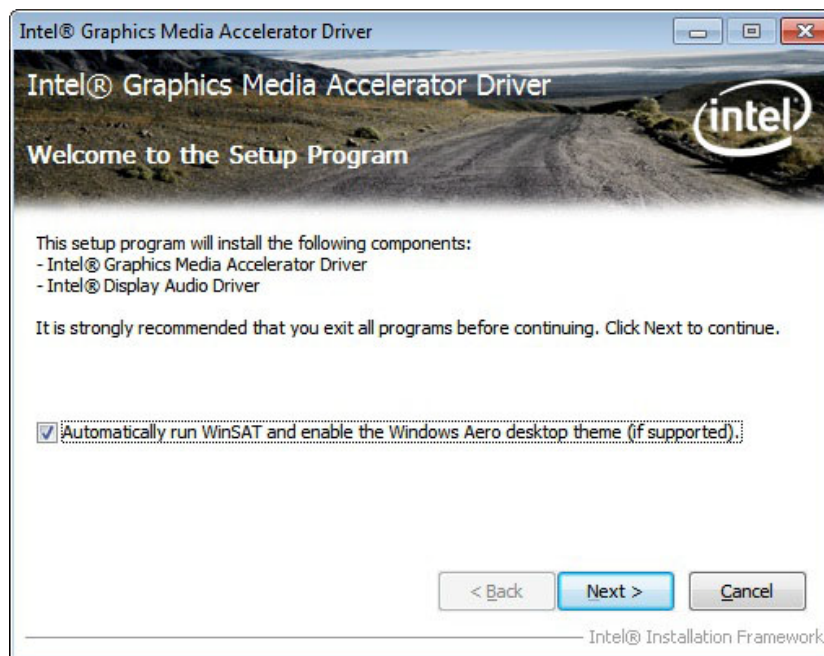

Figure 7-7: VGA Driver Welcome Screen
Step 4: The **Welcome Screen** in **Figure 7-7** appears.